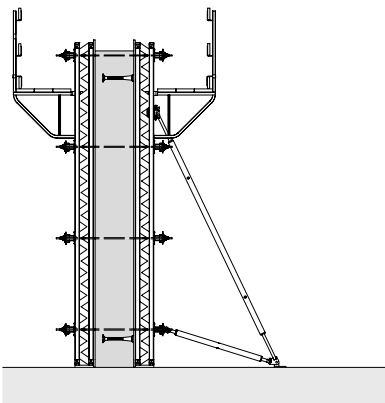

Fig. 08
4. Concrete the first section. (Fig. 08)